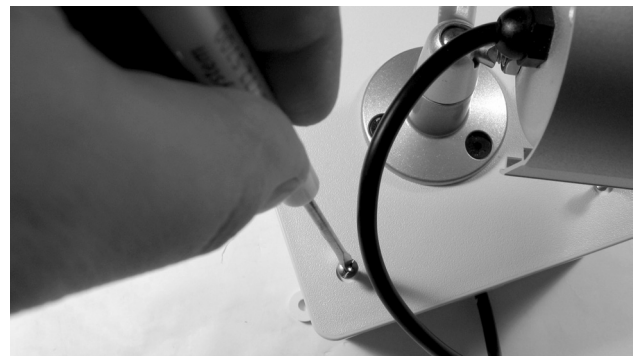

Fig. 7: Secure cover to enclosure
8. Affix gasket to cover and secure cover to enclosure with four (4) screws (supplied) as shown in Fig. 7.